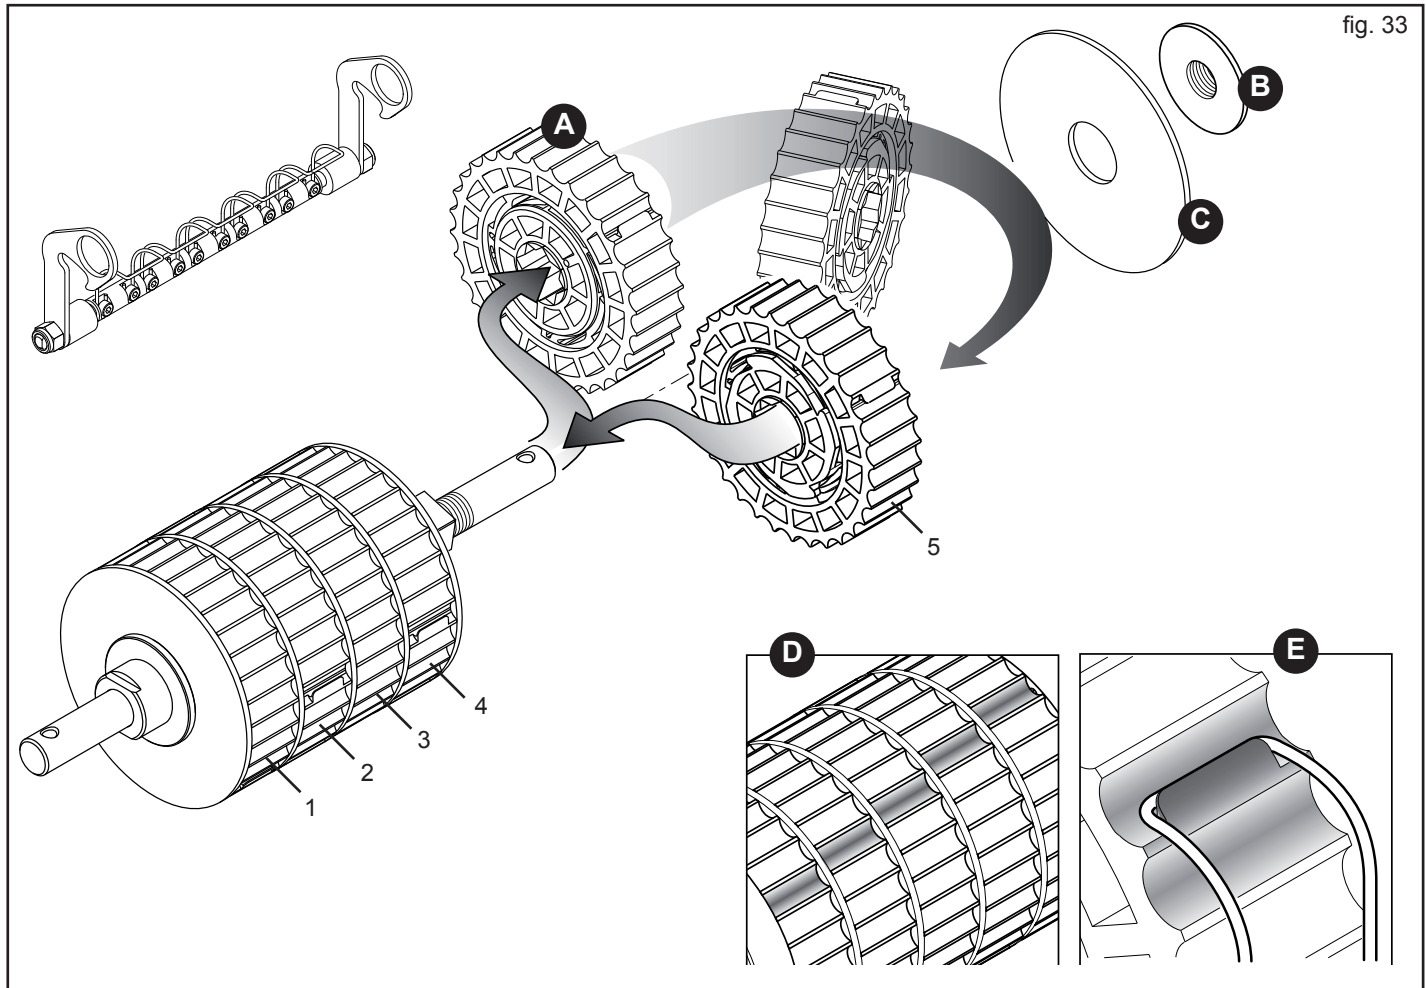

fig. 33
Considering that every section (A, Fig. 33) of the dosing roller distributes 20% of the product contained in roller itself, the number of operating sections can be increased and the gearbox rotation speed reduced to obtain more homogeneous distribution.
First, take the dosing roller off the machine. Then, unscrew the knob (B, Fig. 33) using the supplied wrench and remove the lock nut (C). Extract the section(s) to be disengaged and put them back in **their positions** (1-2-3-4-5, Fig. 33) turning them by 180°.
When re-assembling the sections, make sure that during operation the dosing grooves of the active sections are staggered from one another (D, Fig. 33). This will give continuity to distribution.
Lock the cleaning element into the working position, checking that the springs do not hook onto the previously upturned sectors (E, Fig. 33) stopping them from rotating and therefore blocking the distribution.